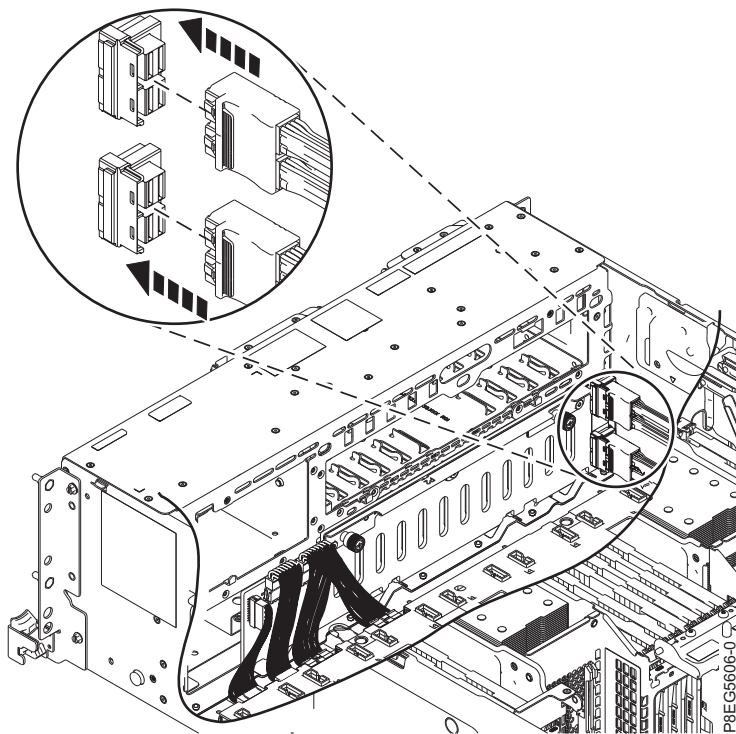

Figure 53. Reconnecting the front SAS cables
37. Reconnect the front SAS cables to the disk drive backplane as is shown in Figure 53. Push the connector in until the connector latch clicks. Arrange the cables against the side of the chassis.